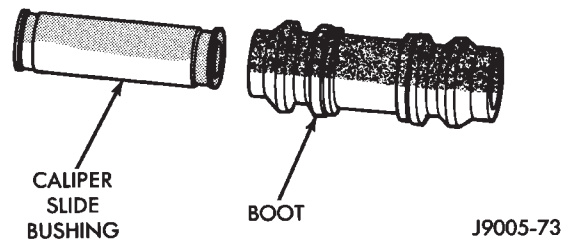

Fig. 19 Caliper Slide Bushing And Boot
(6) Remove caliper mounting bolt bushings and boots (Fig. 19).